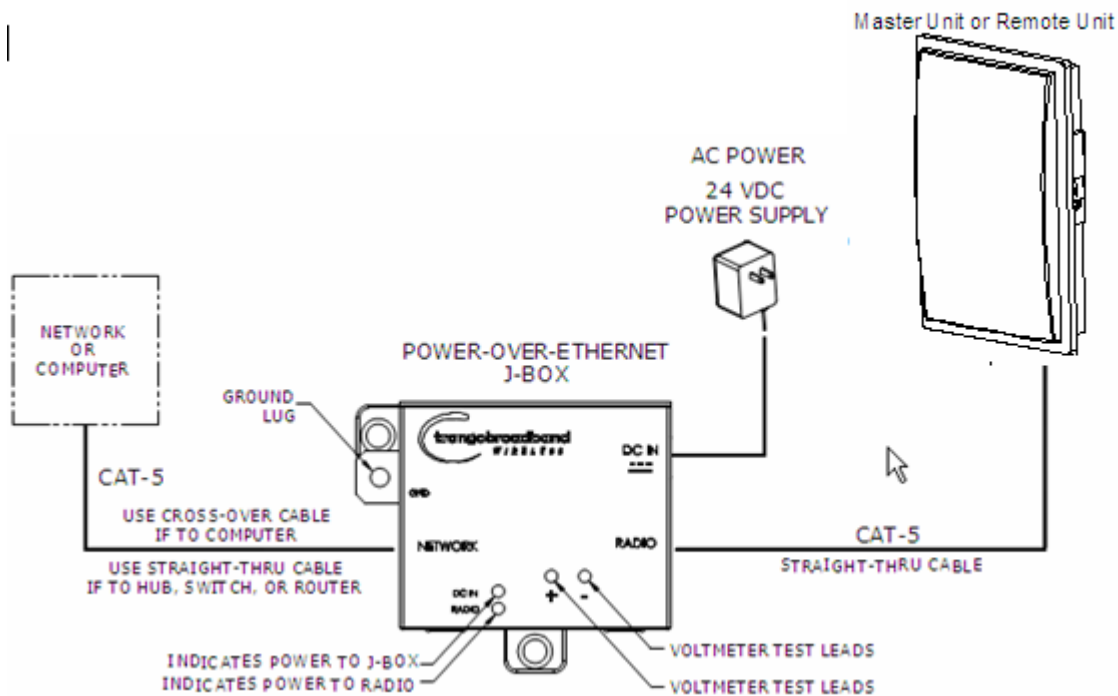

Figure 4: Wiring Diagram
- An Ethernet connection between a PC and the radio (see figure 4)